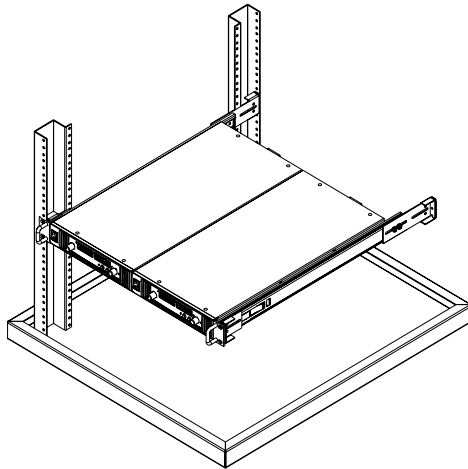

Figure 6 Removing Chassis Member From Slides
4. Remove the chassis member from the slides and assemble to the chassis using $M5 \times 6$ mm pan head screw SST (6X) which are not supplied. See Figure 6.
Important: Figure 6 shows the chassis member for slide 375QD-18. The chassis member will be longer for Jonathan slide 375QD-26/28.